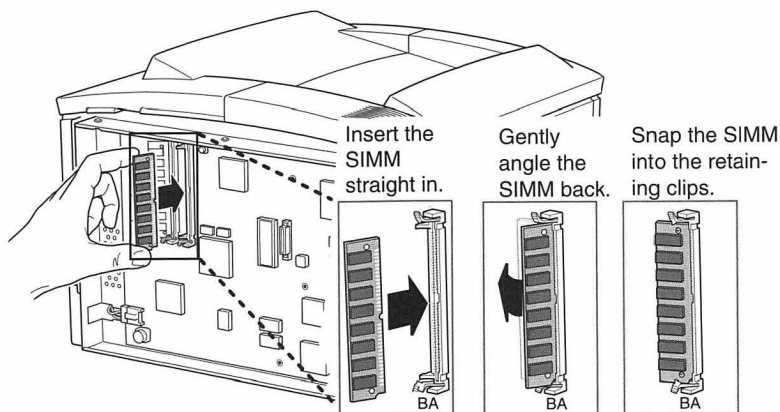

Figure 16. Installing SIMMs
1. Insert the SIMM (see Figure 16) straight into the socket (begin with socket BA).